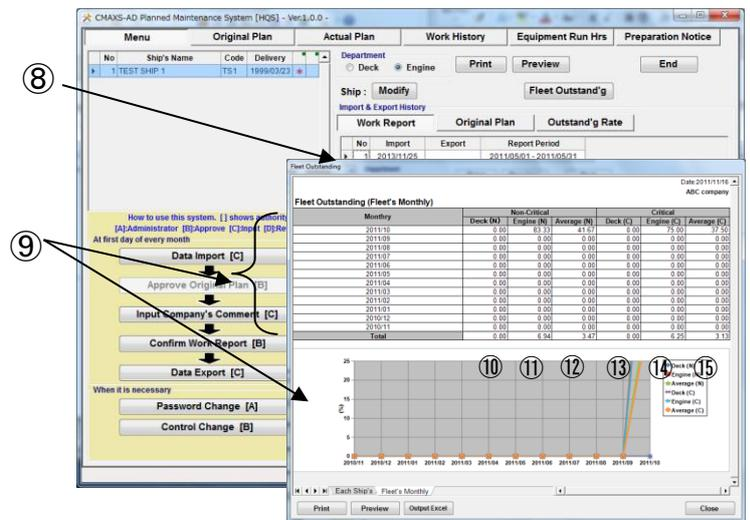

Fig.16-2 Fleet's Monthly Screen
(8) Select [Fleet's Monthly] (Fig.16-2). Fleet's Monthly Screen is displayed.
(9) You can see the average of ship's rate of per month.
(10) Non-Critical Equipment per month on Deck part 's Rate.
(11) Non-Critical Equipment per month on Engine part 's Rate
(12) Average of Non-Critical Equipment per month on Deck part & Engine part
(13) Critical Equipment per month on Deck part's Rate
(14) Critical Equipment per month on Engine part's Rate
(15) Average of Critical Equipment per month on Deck part & Engine part